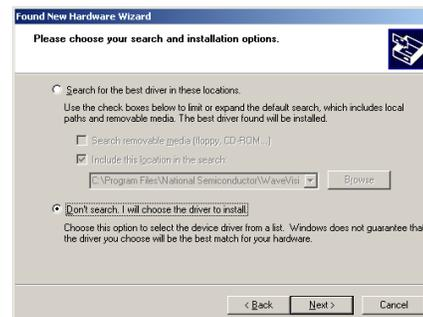

Figure 11: Choose the driver to install
6. In the search and installation options, select ‘Don’t search, I will choose the driver to install’ as shown in Figure 11.